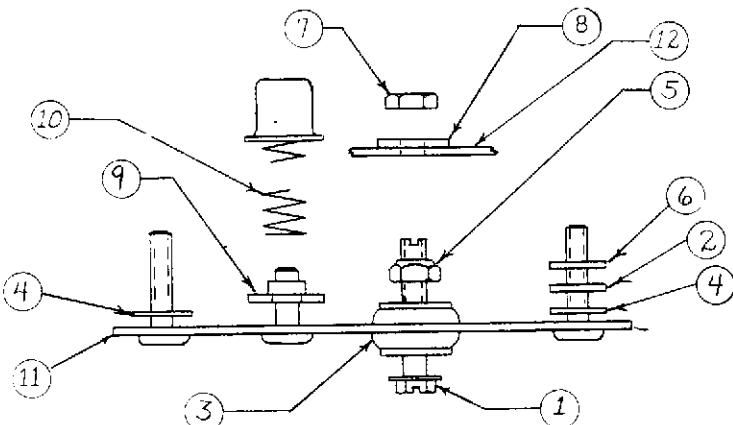

Figure 4-3. 1030N MOTOR MOUNT ADJUSTMENTS
Motor Adjustments—1030N (Figures 4-3 and 4-4)
1. Start adjustments of Motor mounting with one each of Washers (6) (35473-63X) and (4) (35473-46X) on each mounting screw of the Motor Mounting Plate (11). (Washer (2) is shown on drawing as reference only: see Step 5 below).
2. Thread Nut (9) all the way down to Motor Mounting Plate (11).
3. Loosen Nut (7) and turn Screw (1) counterclockwise (using screwdriver slot) to relax tension on Motor Belt. (Figure 4-3)